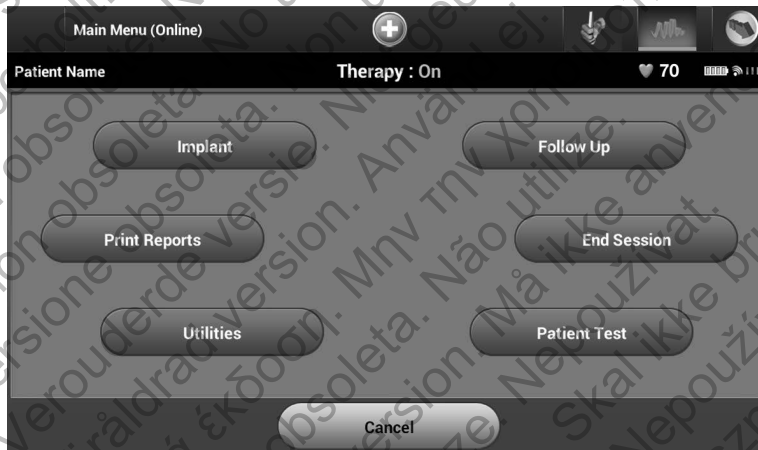

Figure 18: Main Menu screen
2. Select the End Session button (Figure 18).